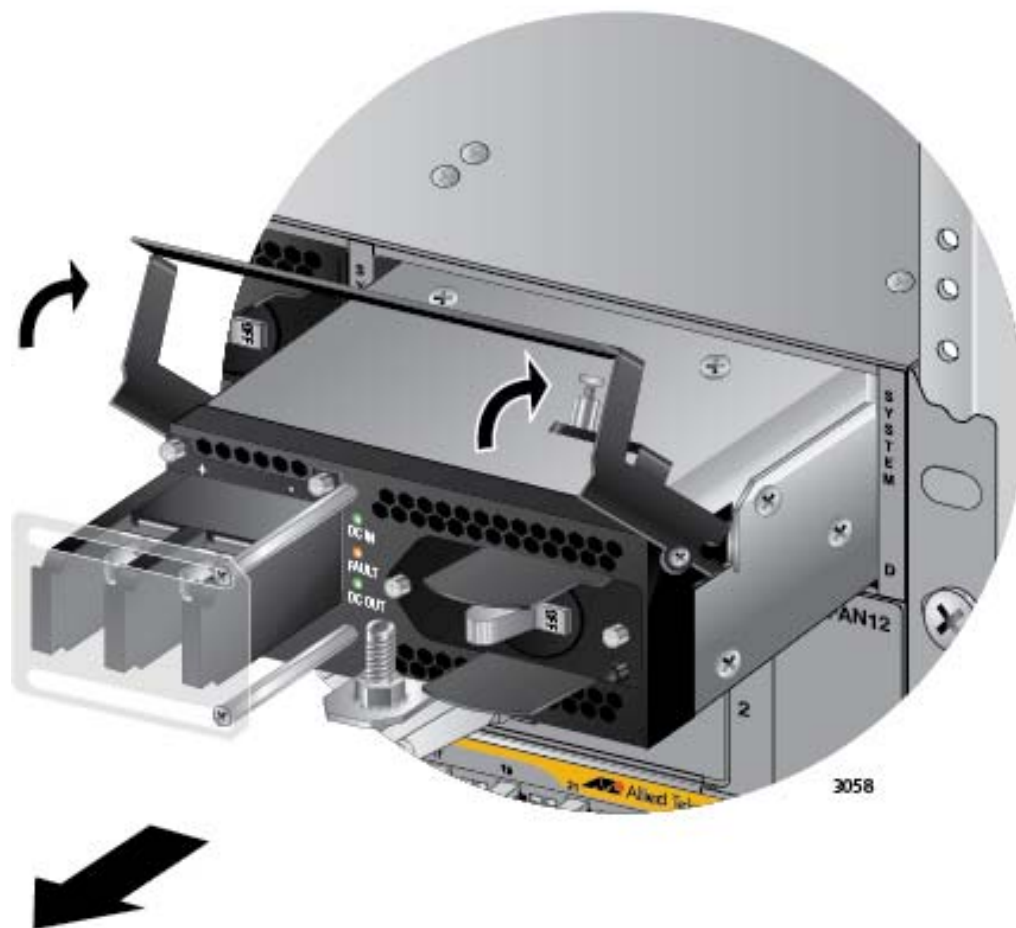

Figure 175. Lifting the Locking Handle and Removing the Power Supply
11. Lift the locking handle and slide the power supply from the chassis. Refer to Figure 175 on page 284.